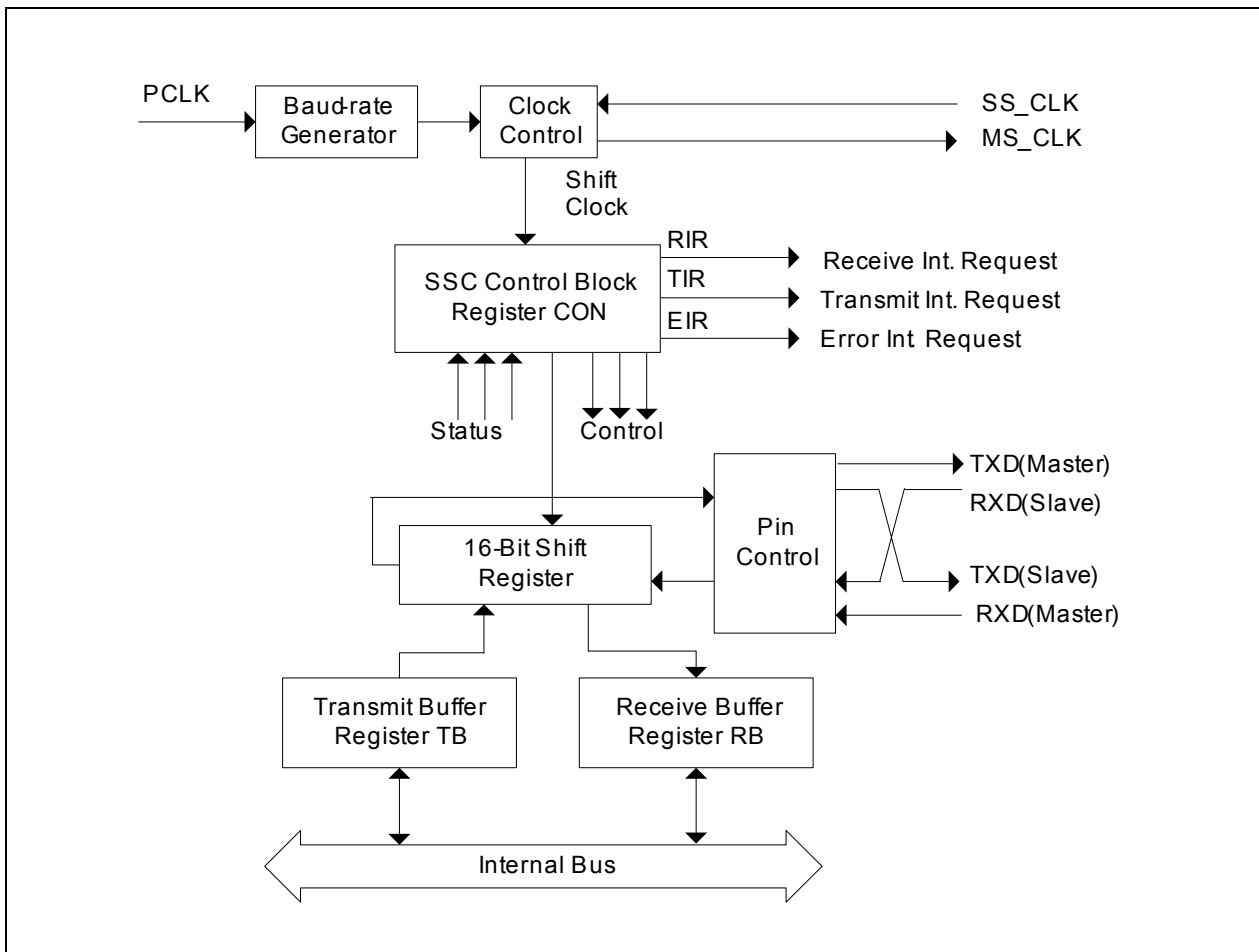

Figure 32 SSC Block Diagram
**Figure 32** shows the block diagram of the SSC.